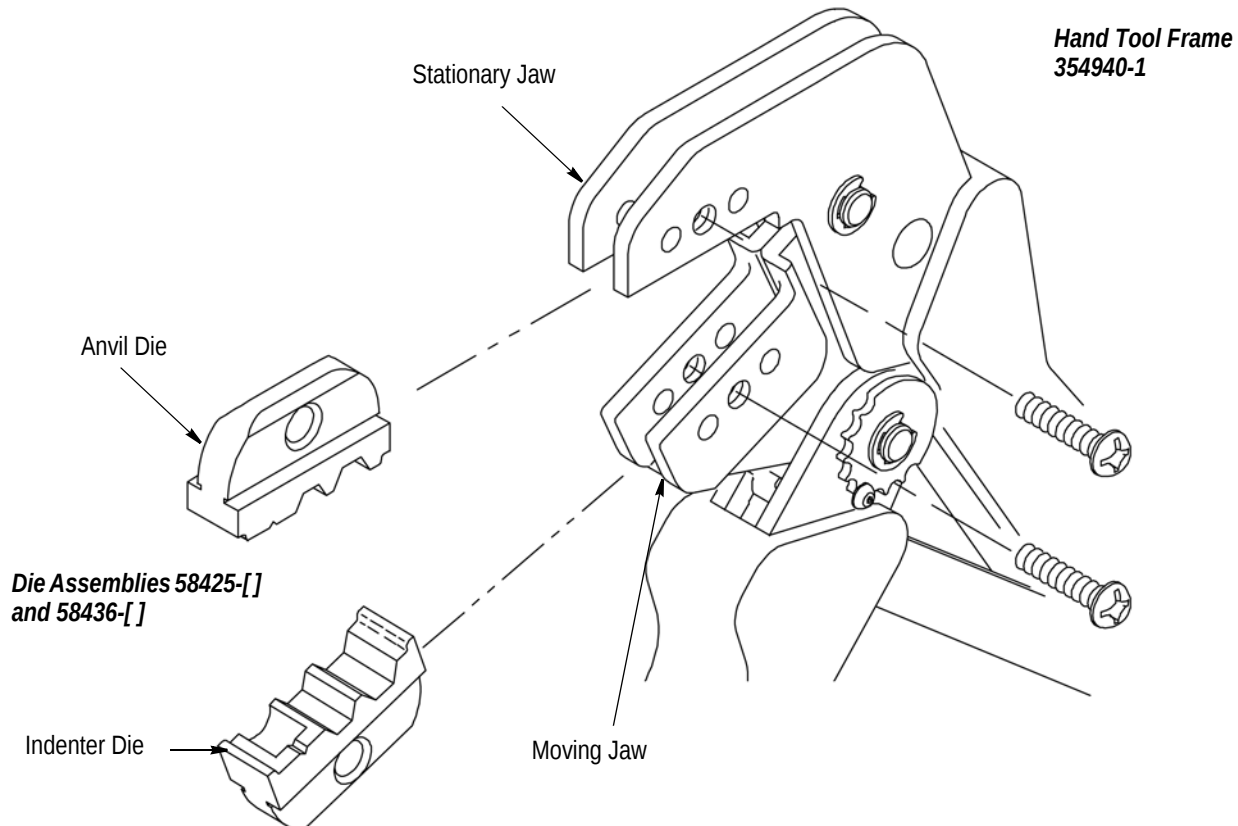

Figure 1
2. DESCRIPTION (Figure 1)
2. See Figure 1 for normal orientation of the dies. Insert the dies inside the tool jaws and align the retaining screw holes.
Customer-replaceable parts are shown in Figure 1. Available separately, repair Kit 679221-1 includes a variety of pins, rings, screws, and springs. If the dies are damaged or worn excessively, they must be replaced. Order the repair kit and replaceable parts through your TE Representative, or call 1-800-526-5142, or send a facsimile of your purchase order to 1-717-986-7605, or write to: